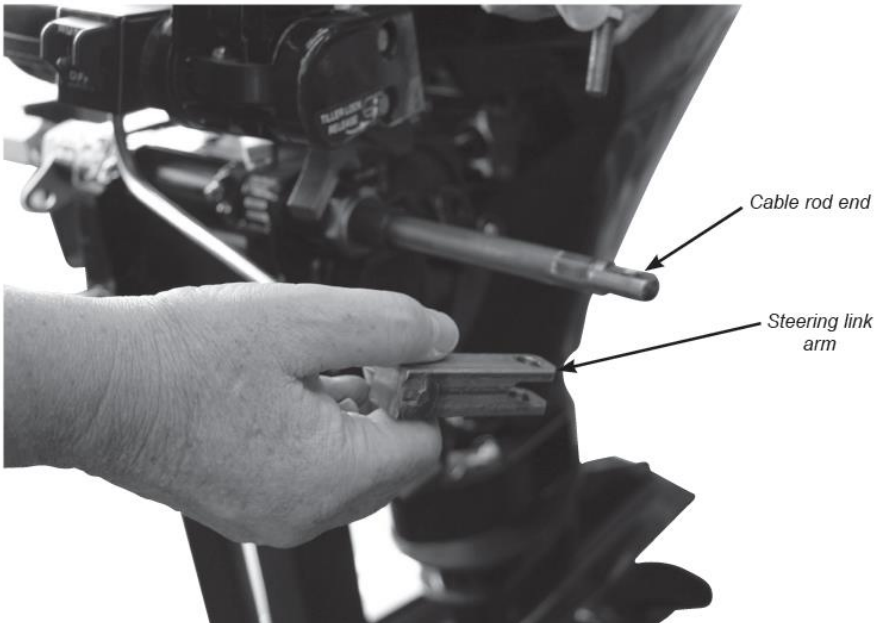

Fig B8 - Attaching the steering link arm to the steering cable
- i) The steering link arm is bolted through the hole in the end of the steering cable rod end (Fig B8). Tighten and torque to 180-200in-lb (20-22.5Nm).